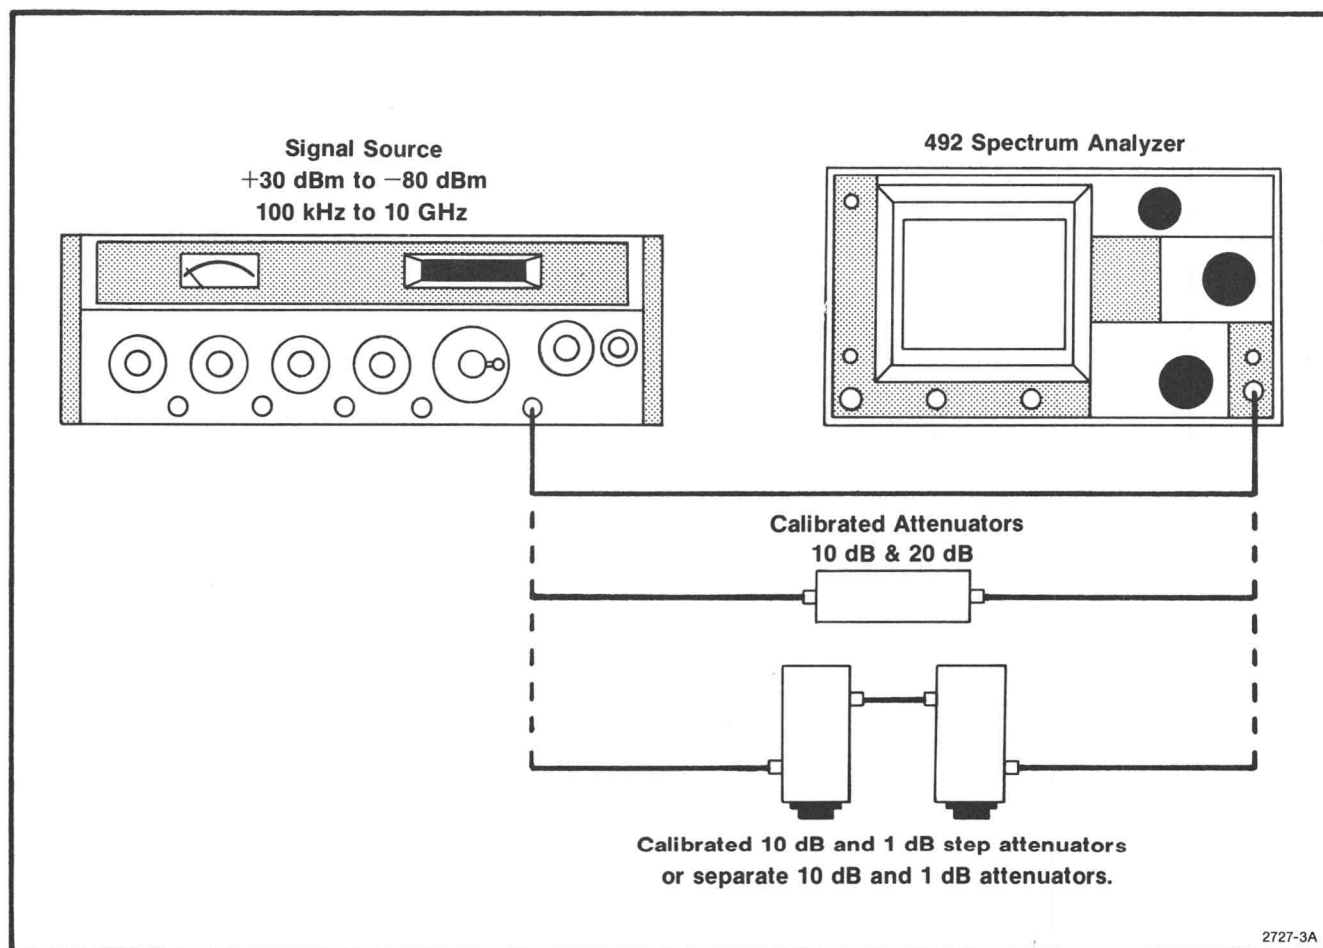

Fig. 3-3. Test equipment setup for verifying attenuator and gain accuracy.
- a. Test equipment is shown in Fig. 3-3. Apply a 0 dBm, 4 GHz signal, from a signal generator through 30 dB of calibrated attenuation to the RF INPUT of the 492. Set the front panel controls as follows:
a. Test equipment setup is shown in Fig. 3-3. Apply a -20 dBm, 100 MHz signal, from the signal generator through 10 dB and 1 dB step attenuators (set at 0 dB), to the RF INPUT; or directly to the RF INPUT of the 492 if individual fixed attenuators are to be used as the standard. Set the front panel controls as follows:
a. Test equipment setup is shown in Fig. 3-3. Apply +10 dBm signal to the RF INPUT and set the front panel controls as follows: